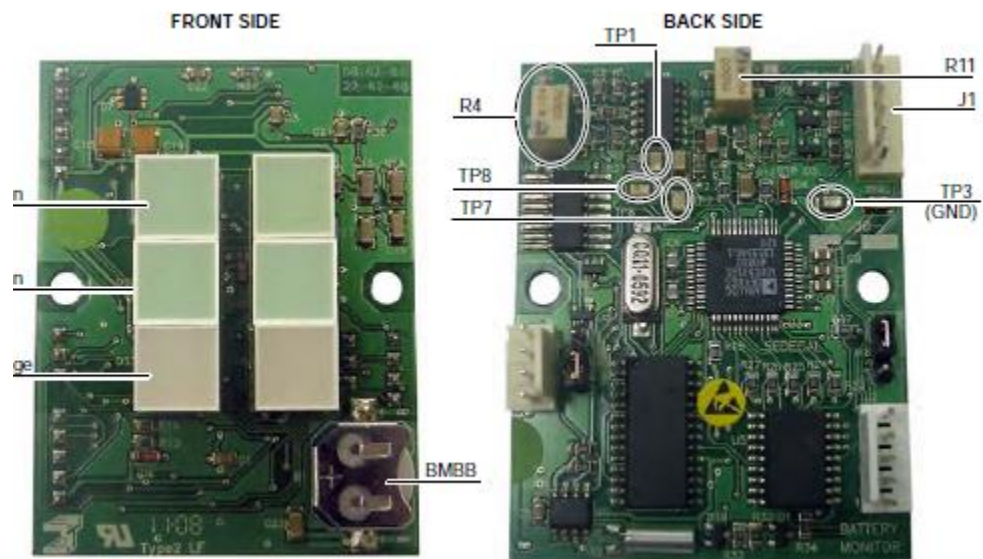

Figure 8: Test point TP1 on Battery Monitor Board
- (1) Compare the real DC Bus voltage, e.g. measured between the two highest voltage test points on the Battery Test Board 03 with the voltage measured on TP1 on the Battery Monitor Board (see Figure 8). For comparison use the conversion table shown in the functional description below.